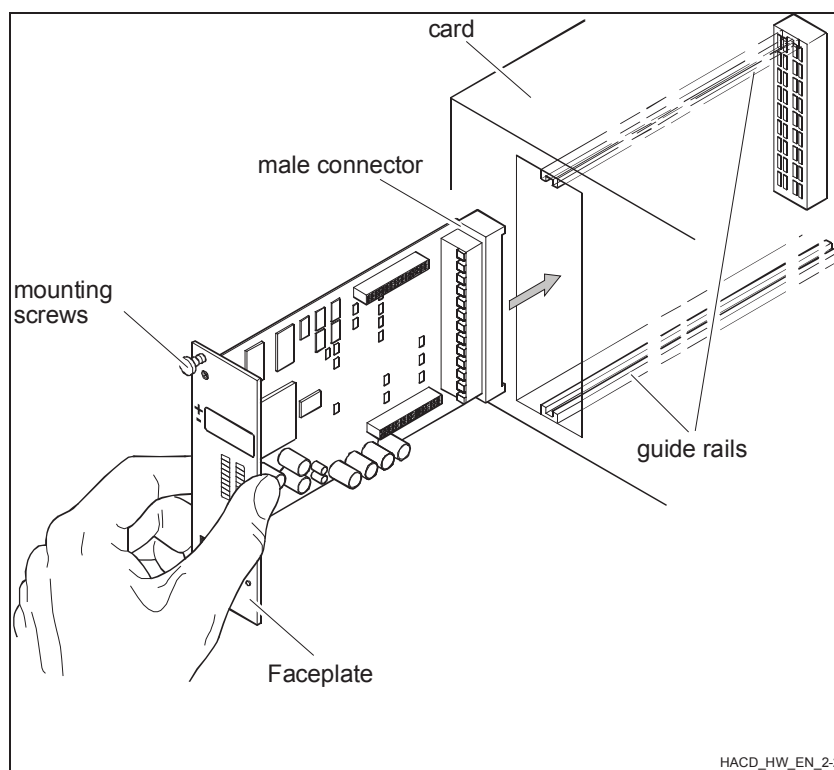

Fig. 2 Installing the controller card
Do not touch any electrical components when placing the controller card in its proper card holder as shown in Fig. 2.
- Slide the card into the guide rails of the rack without using excessive force, as shown in Fig. 2 Installing the controller card.